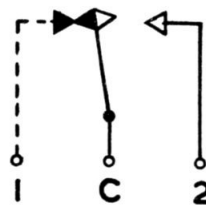

Fig. 3. Wiring diagram
4. The switch is provided with a set of change-over contacts, as shown in *fig. 3*, taken to terminals 1, C, and 2. In the normal application of this switch as an engine re-light switch, terminal 1 is not used. Contacts C and 2 are closed by the setting of the pointer, and open at the end of the 20-second period, when the cam follower drops off the step on the operating cam.